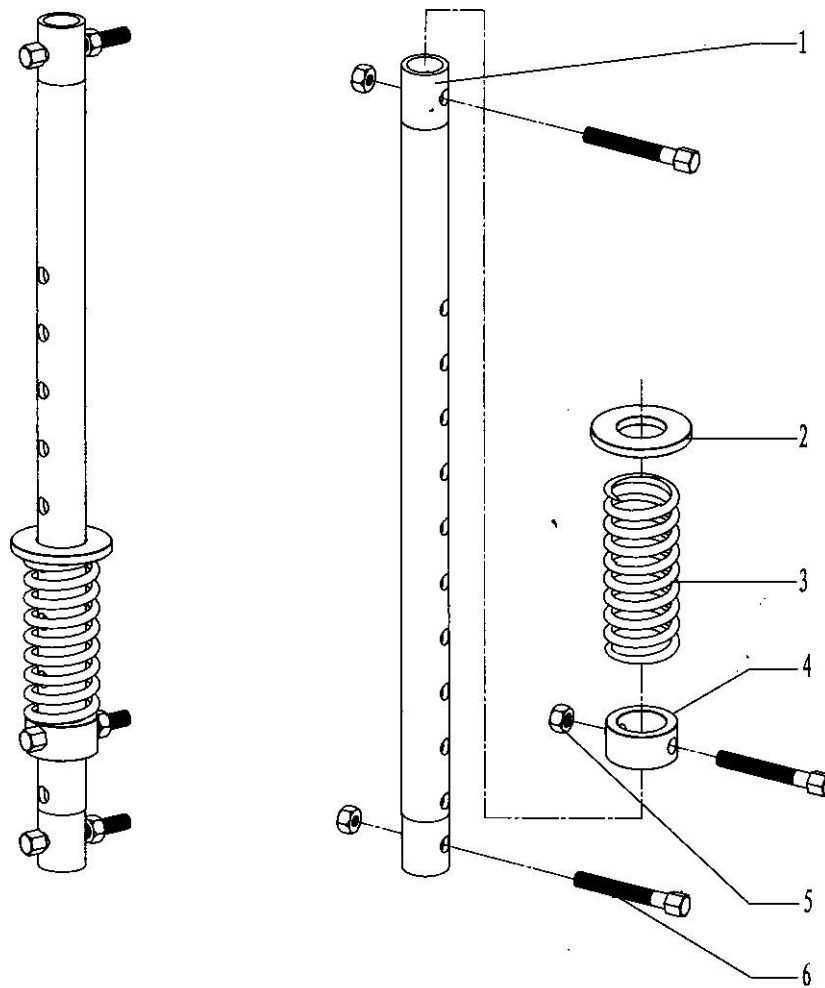

Fig. 26
8. Assembly of front guide rod (Fig26, Table 23)